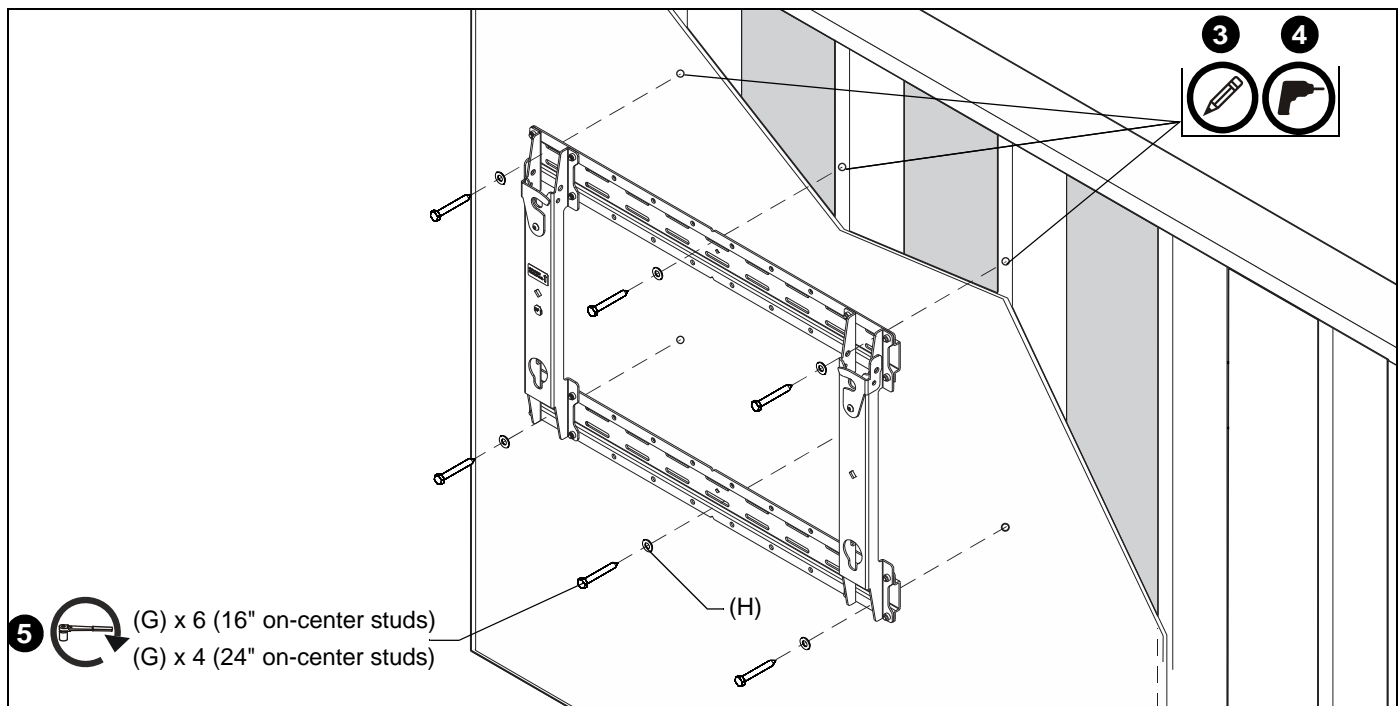

Figure 2
3. Using a pencil, or similar marking tool, mark the location of six mounting holes (or four mounting holes for 24" on-center studs) in horizontal brackets onto surface. (See Figure 2)
5. Secure mount to studs using six 5/16 x 2-1/2" lag screws (G) and six 5/16" (H) flat washers [or four lag screws and four washers for 24" on-center studs]. (See Figure 2)